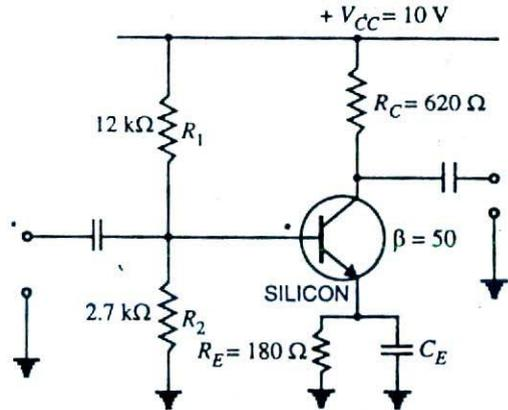

Fig. 11.26
**Example 11.21.** Determine whether or not the circuit shown in Fig. 11.26 is midpoint biased.